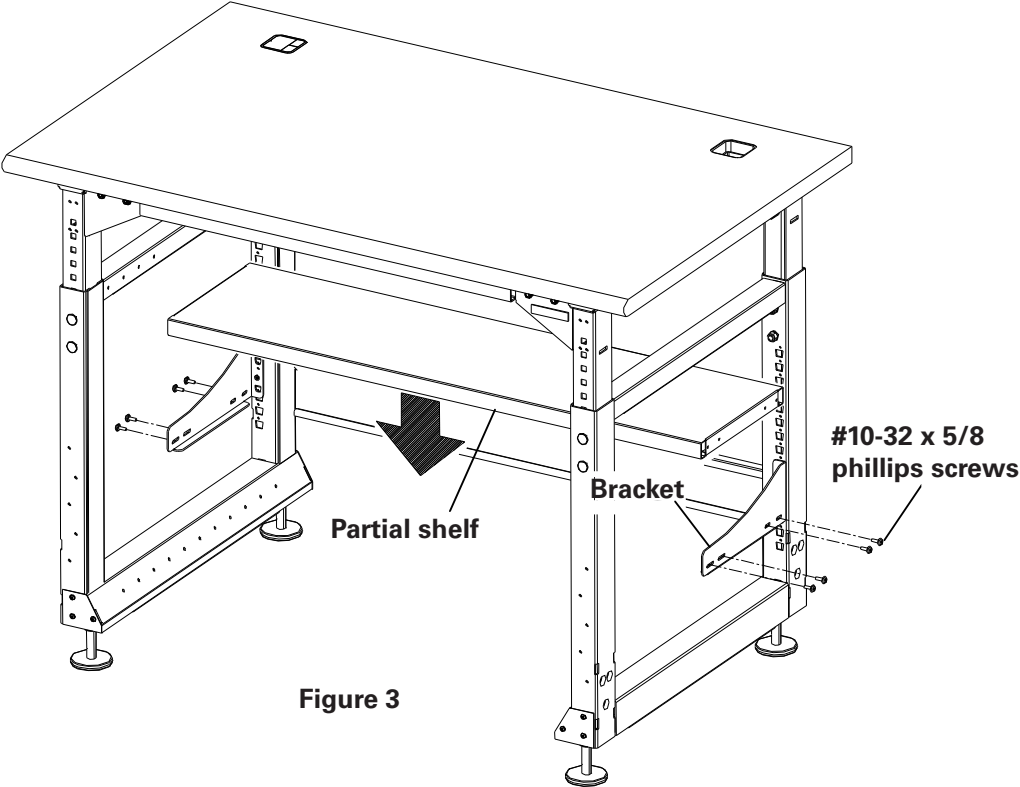

Figure 3
3. Lower the Partial Shelf onto the Brackets and align the holes in the sides of the shelf with the slots in the Brackets. Fasten the shelf to the Brackets using four #10-32 x 5/8" phillips head screws (provided) on each side. See figure 3.